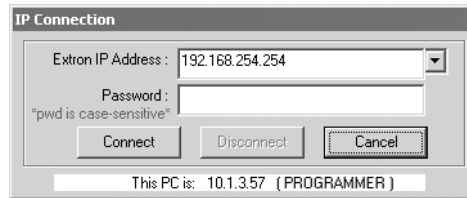

Figure 5-2 — Address and password entry
3. If you selected IP [LAN] in step 2, the IP Connection window appears (figure 5-2).